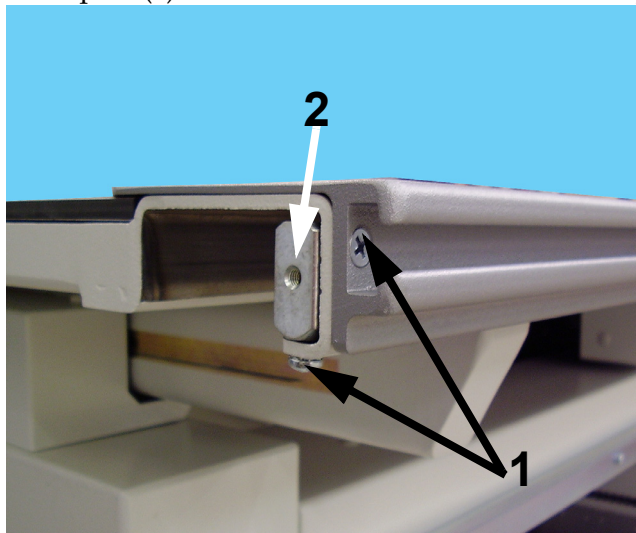

Figure 6-12. Bumper Removal
- 2 Unscrew the bumper screws (1 in Figure 6-12) and remove the bumpers (2) from all four corners of the table top.